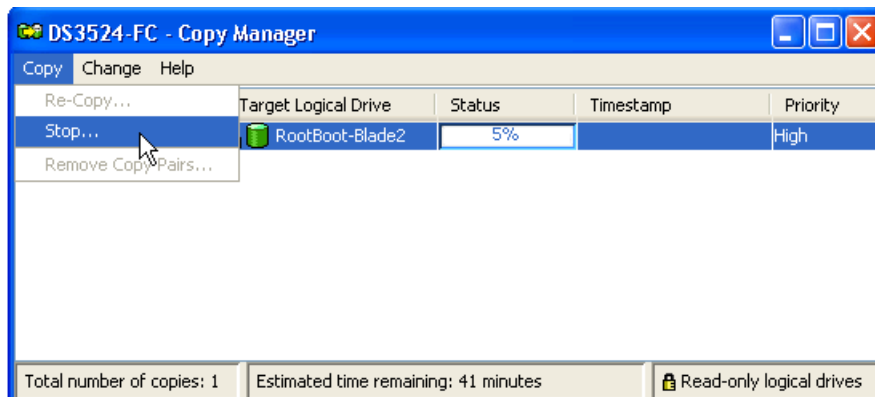

Figure 3-21 Copy Manager: Stop copy menu
3. Select **Copy** → **Stop**. (Or, right-click and select **Stop Copy** from the pop-up menu.) See Figure 3-21.